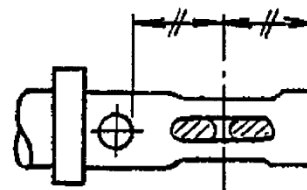

Figure 12. Jaw Teeth Position
- (b) The jaw teeth shall be positioned at a point close to the center between the contact edge and the check hole (See Figure 12).